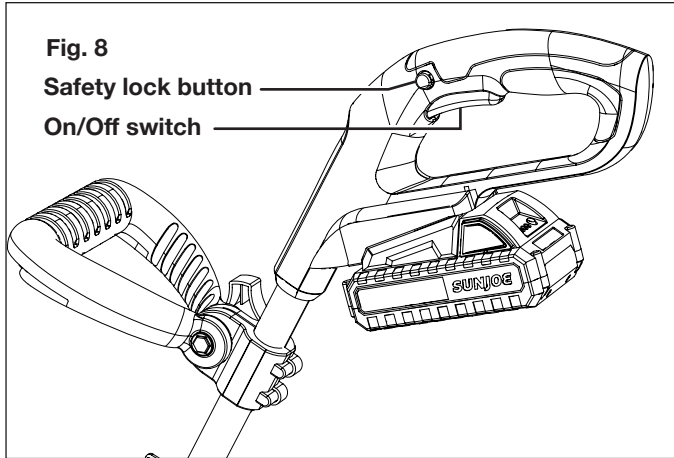

Fig. 8
1. Insert the battery into the battery compartment on the back of the machine. Press until it clicks into position. Press and hold the safety lock button, then squeeze the ON/OFF switch. When the machine runs steadily, release the safety lock button (Fig. 8).
2. To switch OFF, release the ON/OFF switch (Fig. 8). Remove the battery.